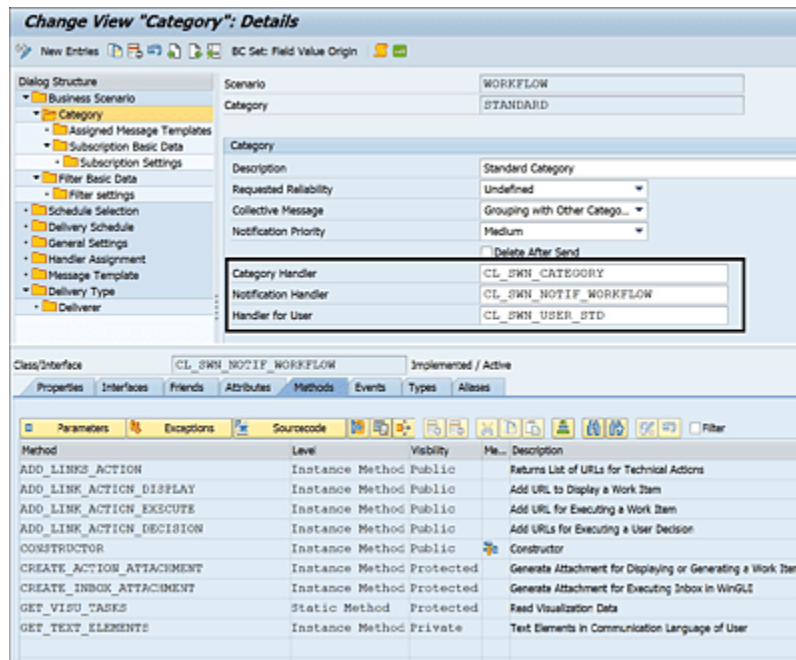

Figure 7.24 Handler Classes and the Methods of Class CL_SWN_NOTIF_WORKFLOW
At the category level of Transaction SWNCONFIG, there are three handler classes: **Category Handler**, **Notification Handler**, and **Handler for User**. Out of these, the **Notification Handler** class handles sets of different details of the notifications sent to the user. In this class, there are methods such as `ADD_LINKS_ACTION`, `ADD_LINK_ACTION_DISPLAY`, and so on, which add and display URLs in the work item. Figure 7.24 shows the handler classes and the methods for class `CL_SWN_NOTIF_WORKFLOW`.
5. Open Transaction SWNCONFIG, and select the **Category** node. Replace the **Notification Handler** class as “ZCL_SWN_NOTIF_WORKFLOW”, which is created in the previous step, as shown in Figure 7.24.